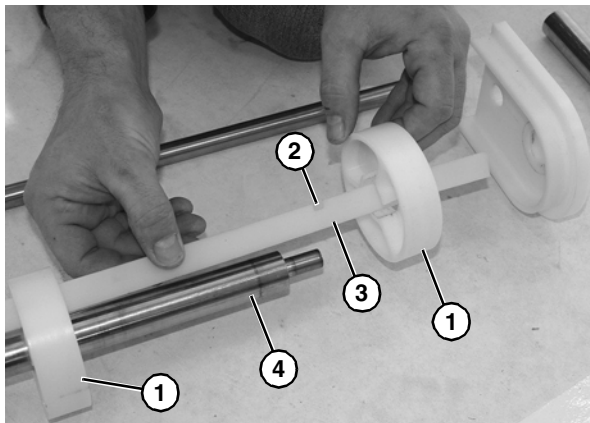

Figure 65
1. Place the pucks (Figure 65, item 1) into the slots (Figure 65, item 2) of alignment bar (Figure 65, item 3), and install onto the idler shaft (Figure 65, item 4).